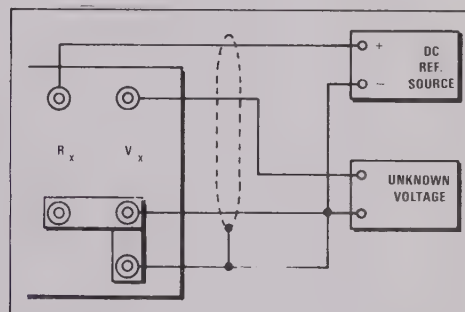

Figure 2-4. DMM Connections for RATIO Measurement
4. Install links as shown in Figure 2-4.
5. Connect voltage input signal to the front panel V_x connectors as in Figure 2-4.
6. Connect the reference voltage input signal to the front panel R_x connectors as shown in Figure 2-4.